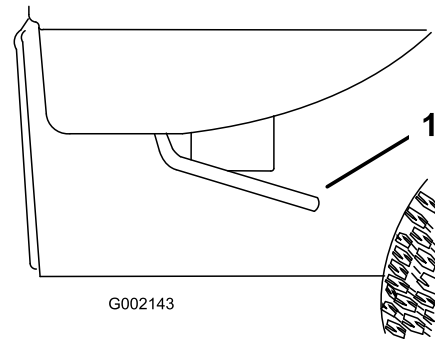

Figure 13
1. Lift the lever on either side of the box and lift the box up (Figure 13).